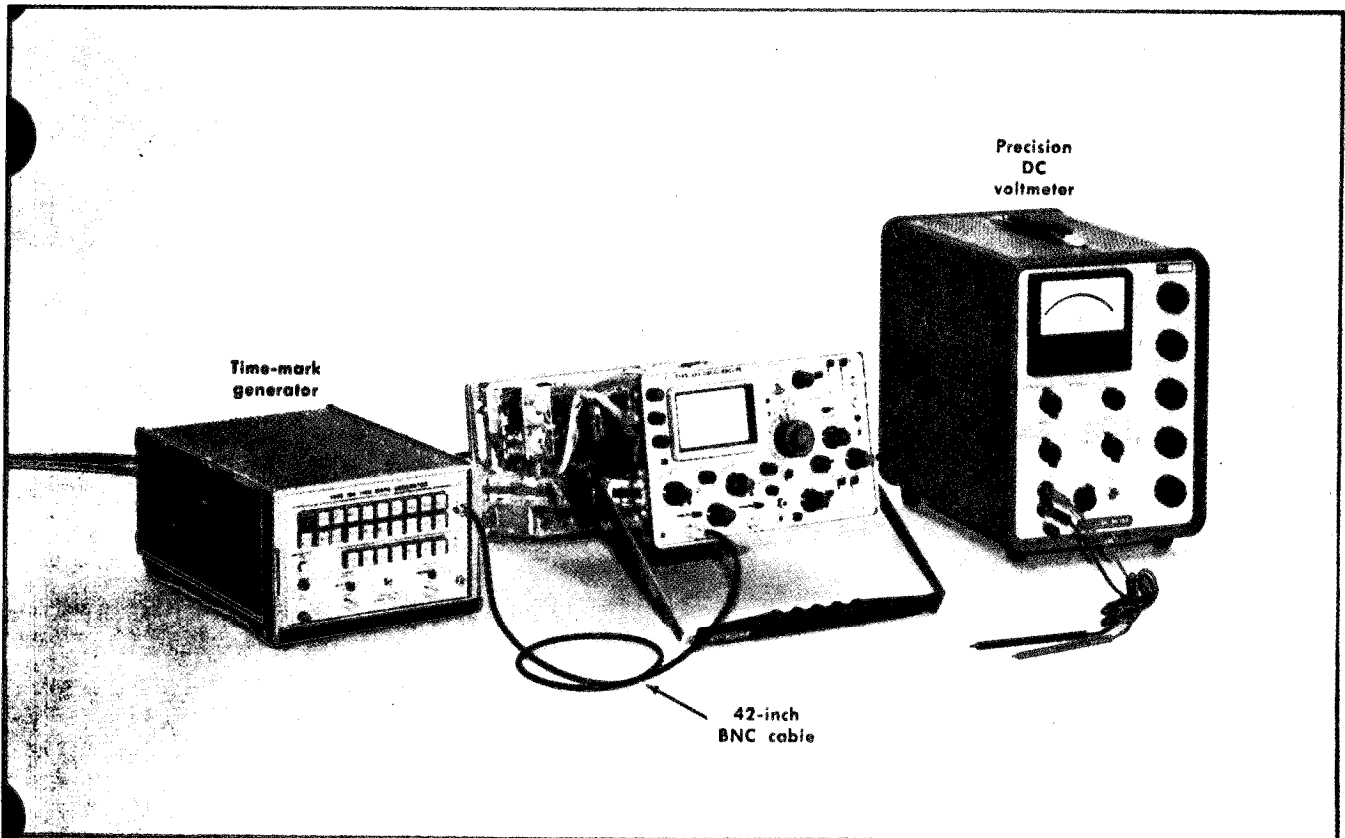

Fig. 6-10. Initial test equipment setup for steps 8 through 12.
8. Adjust Astigmatism ①
a. Test equipment setup is shown in Fig. 6-10.